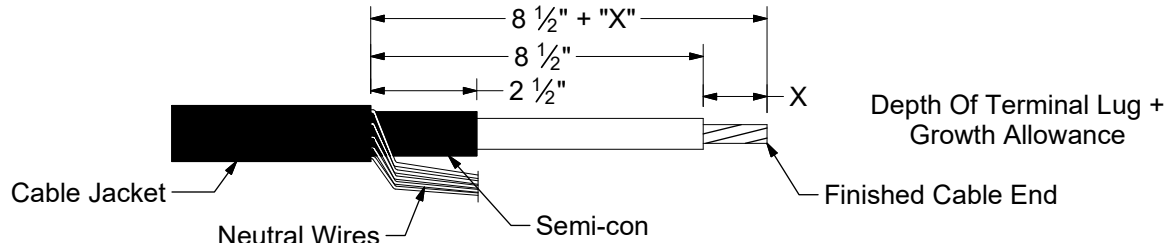

Figure 1
2. Prepare the cable using the dimensions shown in Figure 1. Be sure to check the lug or pin terminal connector being used to determine the insert depth "X". Provide an additional 1/4" of exposed conductor to allow for growth of the aluminum lug or connector during crimping.